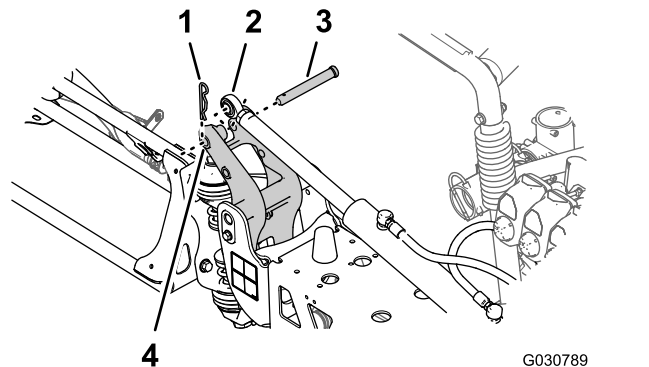

Figure 122
6. Align the rod end of the lift cylinder with the hole 25 mm (1 inch) in the horn of the pivot fitting (Figure 122).
7. Secure the lift cylinder to the pivot fitting with the clevis pin and hairpin (Figure 122) that you removed in step 2 of Removing the Lift Cylinders (page 19).